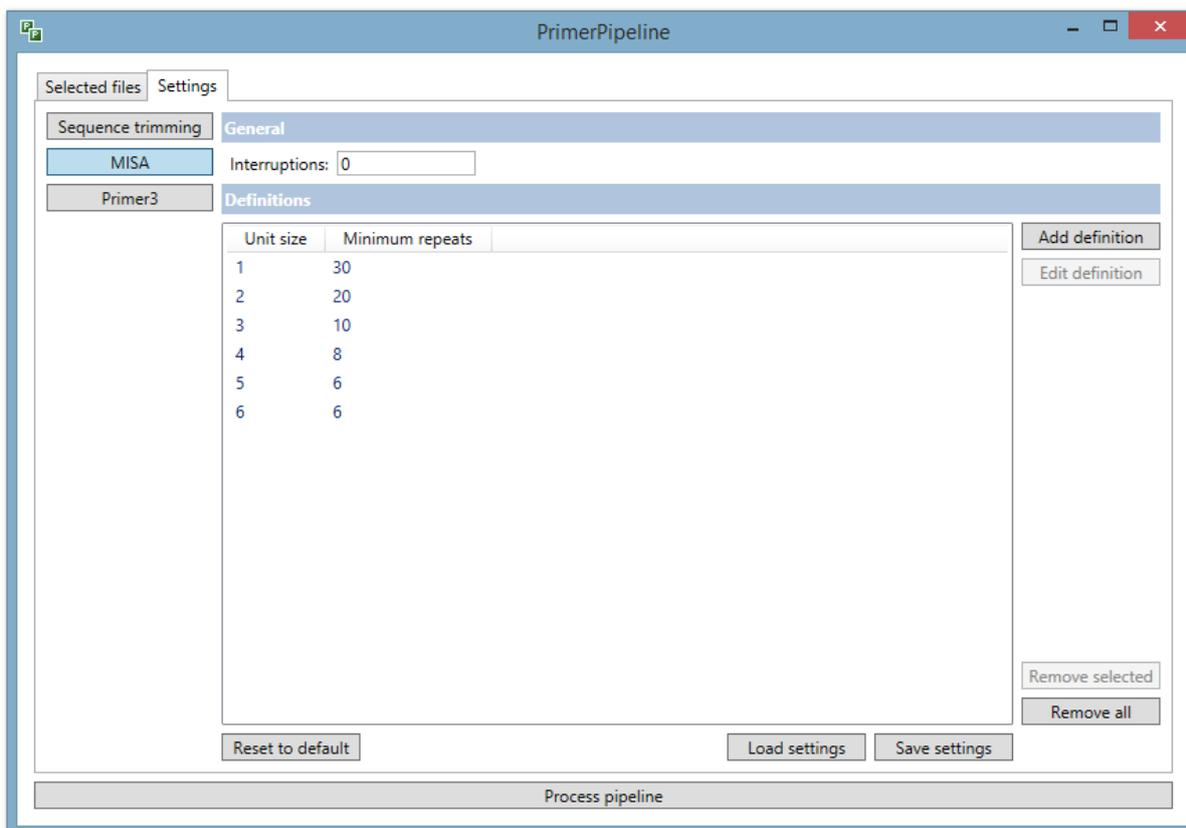

Figure 5. Settings tab, with MISA selected, allowing you to edit MISA settings.
- Within the *Settings* tab, Select *MISA* on the left hand side (Figure 5).
- Press the *Reset to default* to return to default settings at any point. Default settings are shown in Figure 5.